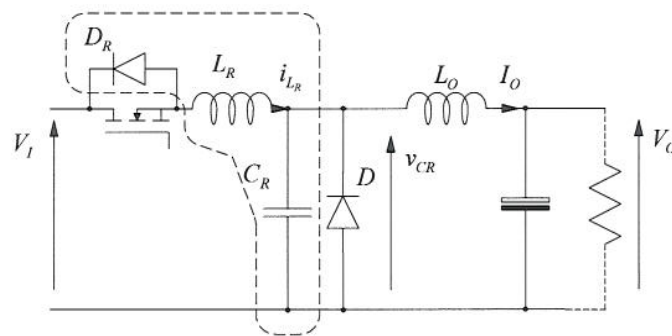
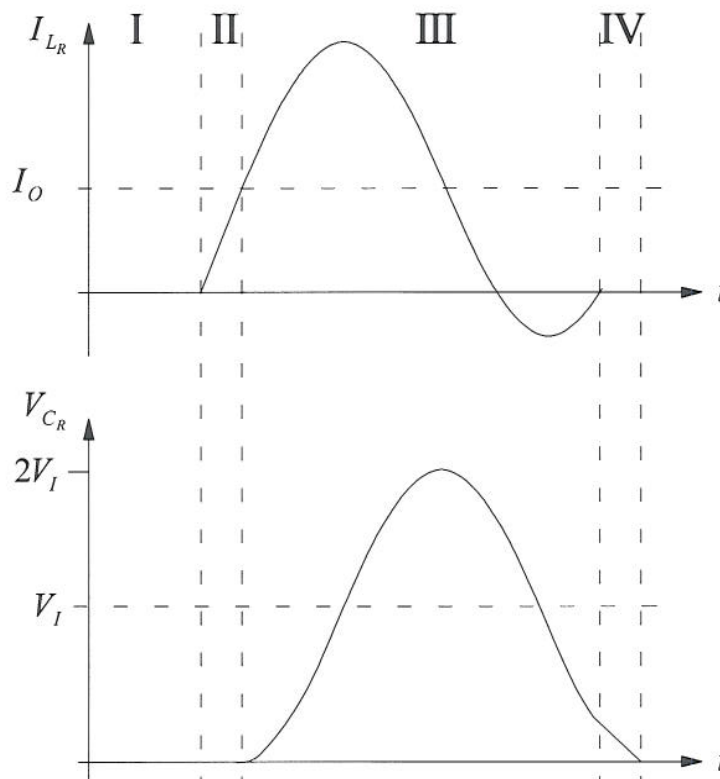

Figure 4.1 A zero-current switched quasi-resonant circuit
Figure 4.2 The four periods of operations of a zero-current switched
- (b) Figure 4.1 shows a zero-current switched quasi-resonant circuit and figure 4.2 shows the four periods of operation defined by the capacitor voltage and inductor current of the resonant circuit. Describe the circuit action in each of the four periods. [6]